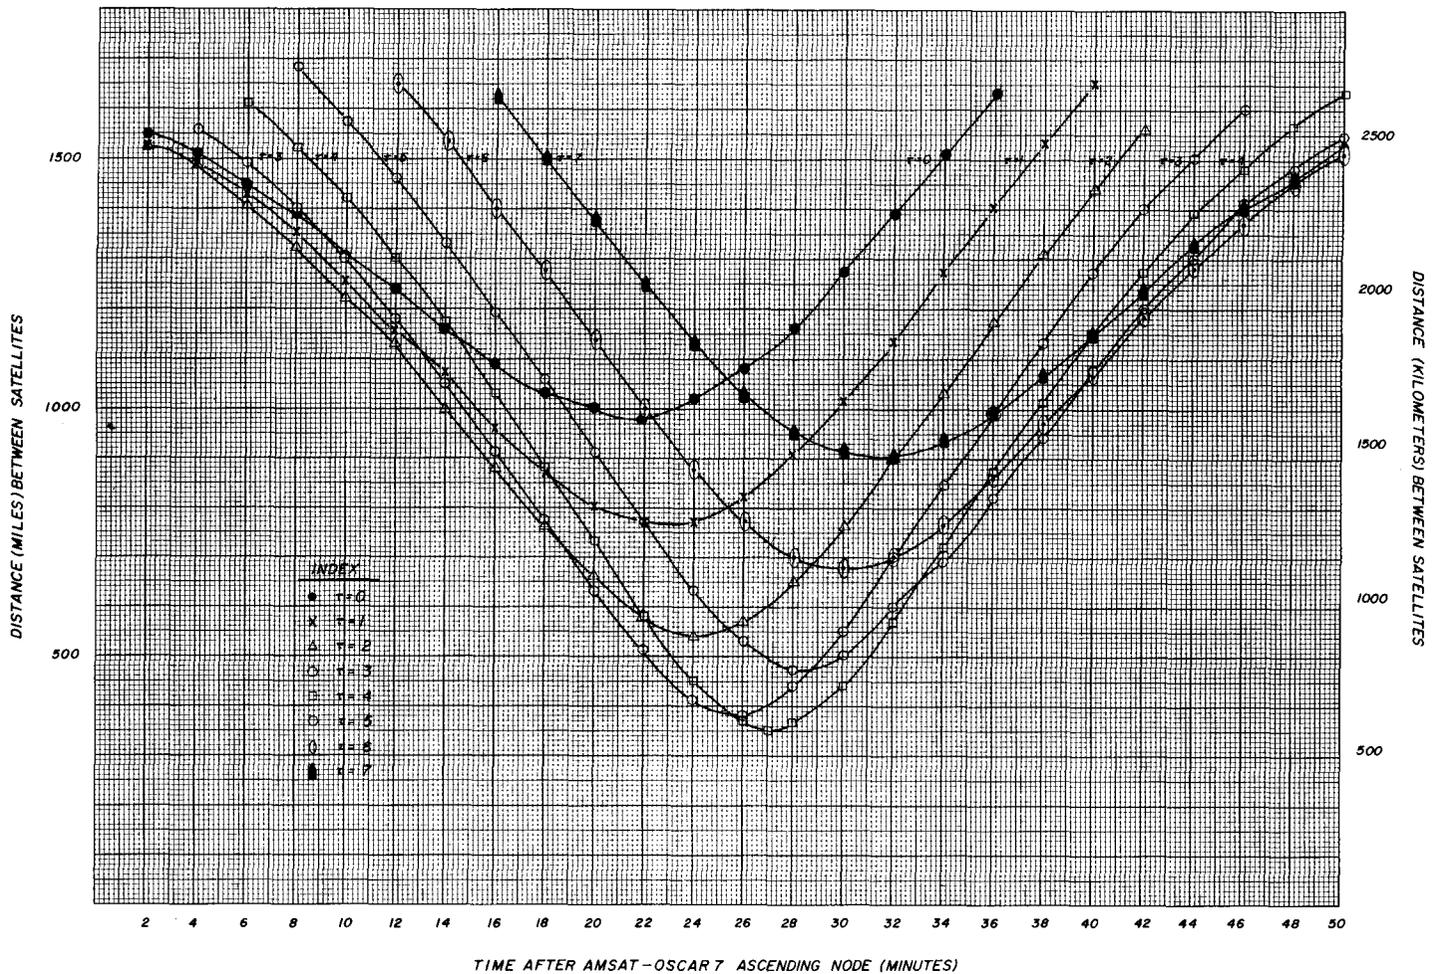

fig. 2. Close-encounter curves for Oscar 7 and Oscar 8, useful for 1979.
With Oscar 6 and Oscar 7 in similar orbits, close-encounter periods lasted a few weeks and were repeated on approximately a six-month schedule. The situation with Oscar 7 and Oscar 8 is quite different. Close encounters now last only part of an orbit, but they occur almost once a day. A given ground station is in range of only a small percentage of such close encounters. Since satellite separation distance is a critical factor in ESSE communications, stations seriously interested in experimenting with this mode need an accurate method of determining when close encounters will occur and what the separation distance will be. The goal of this article is to present a fast, simple method for obtaining this information. It involves the "close-encounter curves" shown in **fig. 2**. With these curves, Amateurs can select the best orbits (and sections of orbits) for linking experiments. The mathematical basis of close-encounter curves is described in the appendix.
The vertical axis of the close-encounter curve (**fig. 2**) represents the separation distance between AMSAT-Oscar 7 and AMSAT-Oscar 8. This informa-
tion is presented as a function of the elapsed time (in minutes) since the last Oscar 7 ascending node. Eight curves are shown in **fig. 2**. Each one is labeled by a parameter τ , which indicates the difference (in minutes) between the Oscar 7 and Oscar 8 ascending nodes. Our convention is to use positive values for τ when Oscar 8 crosses the equator *after* Oscar 7. For example, if an Oscar 7 ascending node occurs at 0141Z, and an Oscar 8 ascending node occurs at 0144Z, the curve labeled $\tau = 3$ applies; if both ascending nodes occur at the same time, the curve labeled $\tau = 0$ is used. Fractions of a minute should be rounded off. The following series of questions and answers best illustrate how the curves are interpreted.
A. **Fig. 2** shows that the intersatellite distance approaches a minimum value on orbits when the Oscar 8 ascending node occurs about four minutes after the Oscar 7 ascending node. The point of closest approach will occur about 27 minutes after the Oscar 7 ascending node. You can also see that the separation distance is never less than 550 km, the difference in altitudes of the two spacecraft.
A. A station at 40 degrees north latitude has access to Oscar 7 only until 23 minutes after the ascending node (on an overhead pass). The station cannot access the satellite at the point of intersatellite closest approach. Looking at **fig. 2** you can see that, beginning at 15 minutes after the Oscar 7 ascending node, the intersatellite distance becomes less than 1700 km when $\tau = 2, 3, \text{ or } 4$ minutes (Oscar 8 ascending nodes occurring 2, 3, or 4 minutes after the Oscar 7 node). The time slot between 15 and 23 minutes after the Oscar 7 node is the best window. We've arbitrarily chosen 1700 km as our cutoff point because signals will be down 10 dB relative to 550 km (absolute closest approach) due to $1/r^2$ path losses.
Each ground station using close-encounter curves will find it convenient to shade in the area during which access to Oscar 7 is not possible. For example, a station at 40 degrees north latitude would shade in the region between 23 minutes and 35 minutes on **fig. 2**.
A. It's hard to say. **Fig. 2** shows that, during 1979, the evening orbits provide shorter intersatellite distances. Other factors, however, such as the normally lower transponder loading early in the day, might lead to better results on morning orbits. For morning passes, a station at 40 degrees north latitude would select orbits with $\tau = 4, 5, \text{ or } 6$ and concentrate on times between about 35 and 40 minutes past the Oscar 7 ascending node.
Q. Over what period of time can **fig. 2** be used?
A. If the relative orientation of the Oscar 7 and Oscar 8 orbital planes remained constant, **fig. 2** could be used indefinitely. Because there is a slight drift in the relative orientation of these planes, a graph like the one shown in **fig. 2** must be drawn for a specific date. In this case, the predicted positions of the orbital planes for July 1, 1979, were used. The drift, however, is so slow that **fig. 2** will provide reasonably good results (within one minute or 200 km) for all of 1979.
The 1979 W6PAJ orbit calendar, using data by Dr. Tom Clark (W3IWI), predicts that $\Delta\lambda^*$ will be 18.6 degrees on January 1, 1979, 19.0 degrees on July 1, 1979, and 19.4 degrees on December 31, 1979. If $\Delta\lambda^*$ can be treated as a constant, then eq. 7 will depend on only two variables, and a function of two variables can often be illustrated on a single graph as a set of curves. To test this approach, three graphs (each graph consisting of a set of close-encounter curves) were drawn for $\Delta\lambda^* = 18.6$ degrees, 19.0 degrees, and 19.4 degrees. (All computations were performed on an HP-97 programmable calculator.) From these graphs, it was evident that a 0.4-degree change in $\Delta\lambda^*$ had a negligible effect on the close-encounter curves. A single graph (fig. 2) can therefore be used for all of 1979.